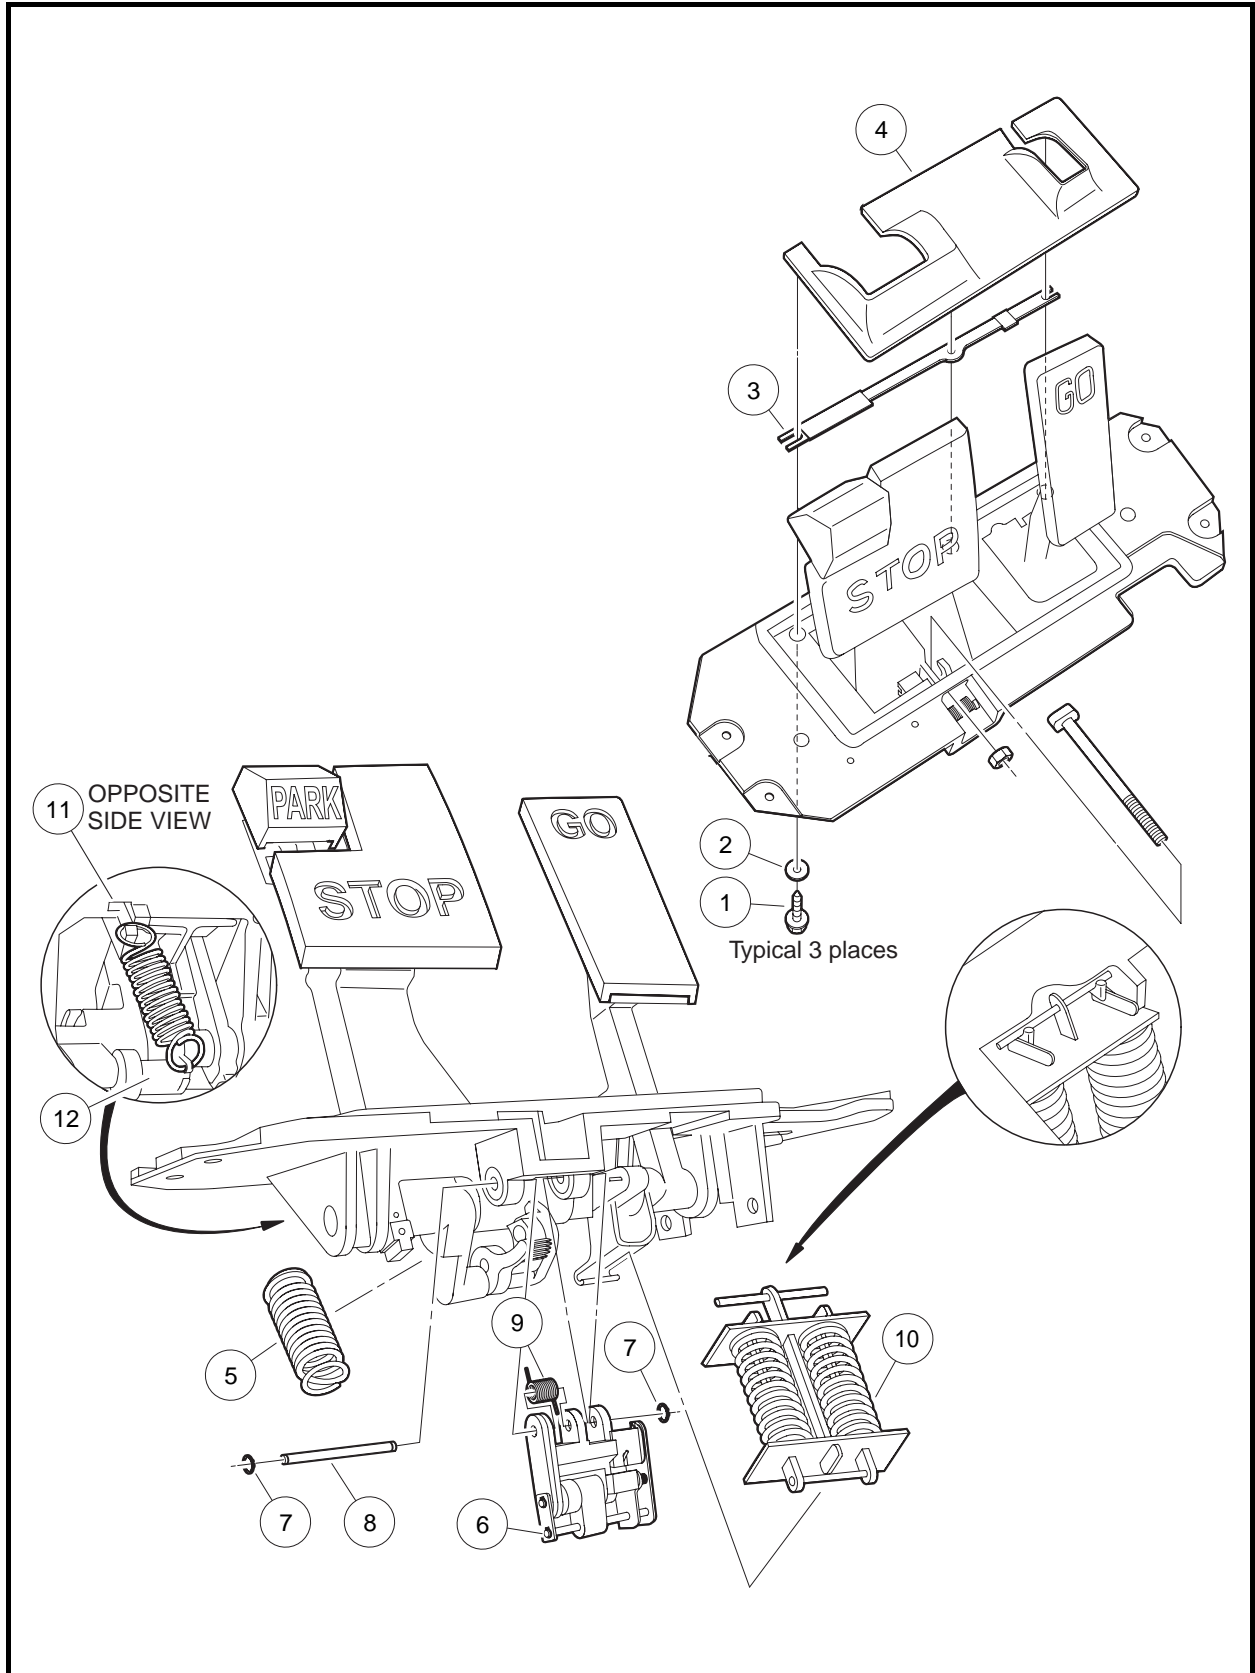

Figure 5-4 Brake Pedal
Debris shields on the top face of the pedal group prevent excessive debris from contacting the moving parts of the pedal group. Both shields (3 and 4) are held in place with screws (1) and washers (2) (**Figure 5-4, Page 5-5**). When shields are replaced, tighten screws (1) to 53 in-lb (6 N·m).
The brake return spring (5) provides the pressure needed to return the brake pedal to its upright position (**Figure 5-4, Page 5-5**). One end of the spring attaches to a hook on pedal (11) and the other end attaches to pedal base (12).
The pawl assembly (6) serves to lock the brakes when the PARK pedal is pressed. The pawl assembly also releases the brakes when either the STOP or GO pedal is pressed (**Figure 5-4, Page 5-5**). The pawl assembly is serviced as a unit. The replacement unit includes two snap rings (7), pin (8), spring (9), and pawl unit (6). When replacing the unit, ensure spring (9) is properly positioned to be held in place when the pin (8) is installed. Secure the pin with two snap rings (7).
The accelerator return spring assembly (10) consists of two springs and three T-shaped bars secured by two crosspins (**Figure 5-4, Page 5-5**). The assembly is replaced as a unit. The replacement unit includes a pin that keeps the spring compressed so it can be installed in the pedal group. Replace the assembly as follows: